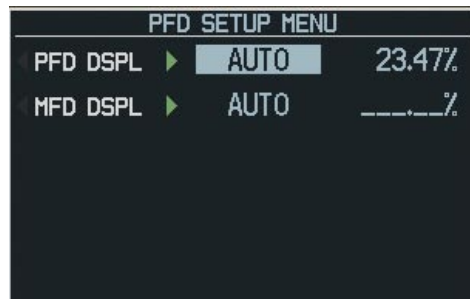

Figure 1-8 PFD Setup Menu Window
- 2) Turn the small **FMS** Knob to select pages within the group. See Figure 1-8.